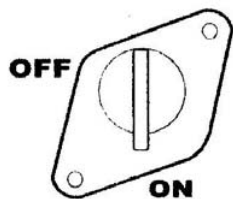

Figure 6- Fuel Valve in the “on” position
3. Turn the fuel valve to the "ON" position (see *figure 6*).